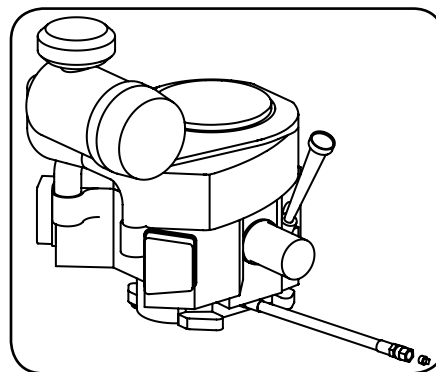

Figure 4-1
- Locate the oil drain hose on the engine. See Figure 4-1.
- While holding the free end of the oil drain hose over the oil collection container, unscrew the square-head hose plug from the end of the hose. See Figure 4-1. Drain the engine oil into the collection container.